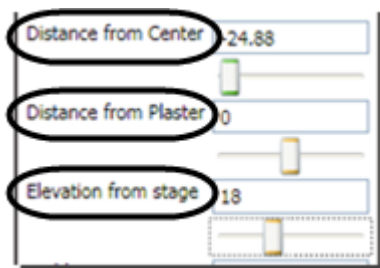
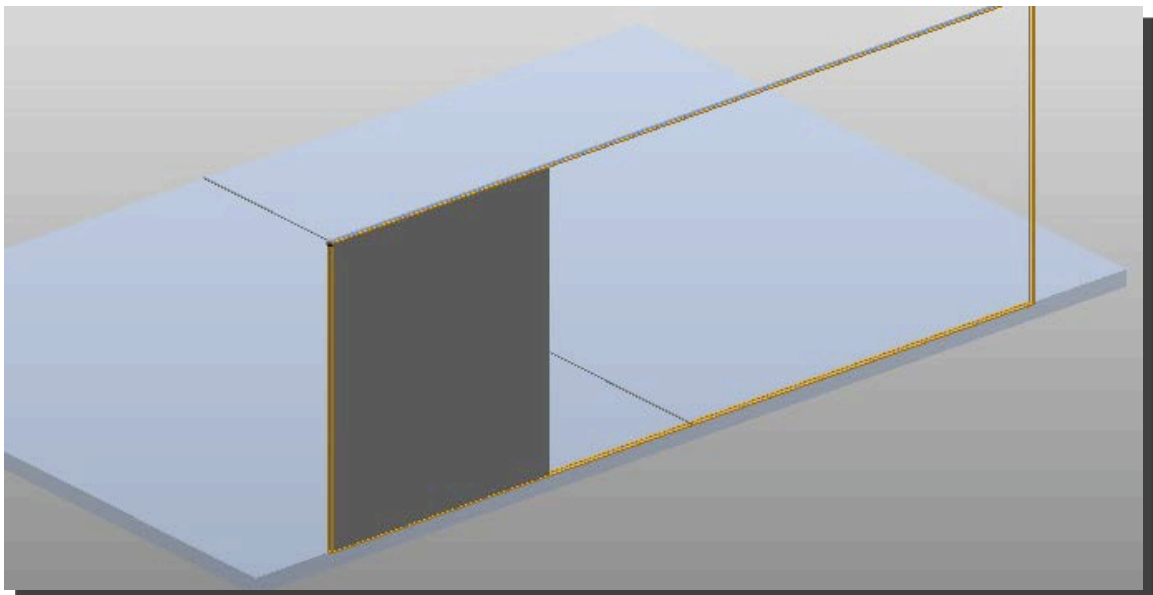

Figure 199
Figure 200
4. Using the **Distance from Center**, **Distance from Plaster** and **Elevation from Stage** fields, position the curtain on the stage (Figure 199 and Figure 200).